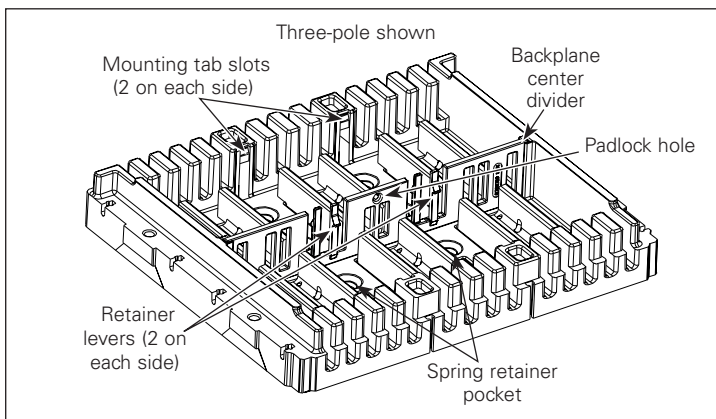

Figure 3. Rear backplane only.
The two interchangeable shutter assemblies are installed in the rear backplane (Figure 3). The backplane is shown here removed from its cassette for clarification purposes only. Become familiar with the cassette's rear backplane.
Insert either shutter assembly at an angle as shown so the mounting tabs engage small pockets in the backplane. Complete the installation by pushing down on the other end of the shutter assembly until the shutter retainer edge engages the backplane center divider, which is indicated by a click (Figure 3). Once both ends of a shutter assembly are engaged, test for a secure installation by gently tugging on the shutter assembly to ensure the proper engagement.
Step 1: Push the two retainer levers on the backplane center divider simultaneously (Figure 3) away from the shutter assembly being removed to release the retainer edge. The shutter assembly can be lifted up and out, once both tabs are released.